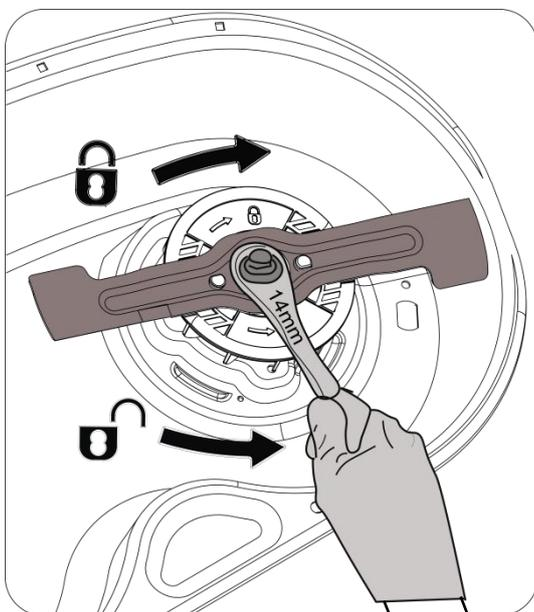
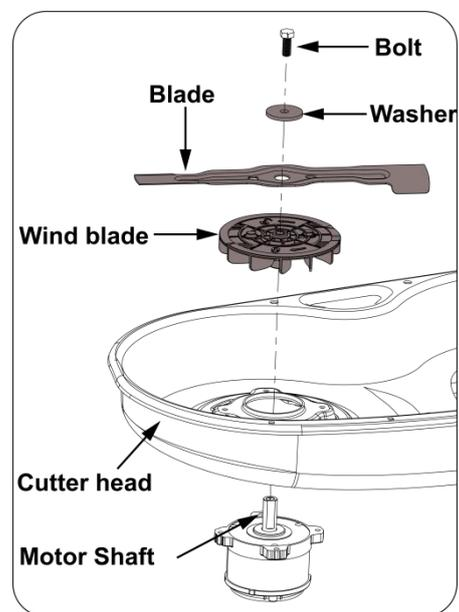

Figure 5.5
Figure 5.6
8.4.1 Replacing the cutting blades (Fig5.5- Fig5.6)